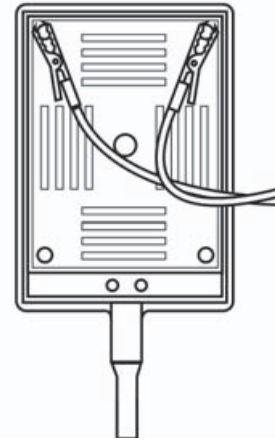

Figure 17 Transducer connector attachment
- b** Connect the red leads to the transducer connector as shown in Figure 17.